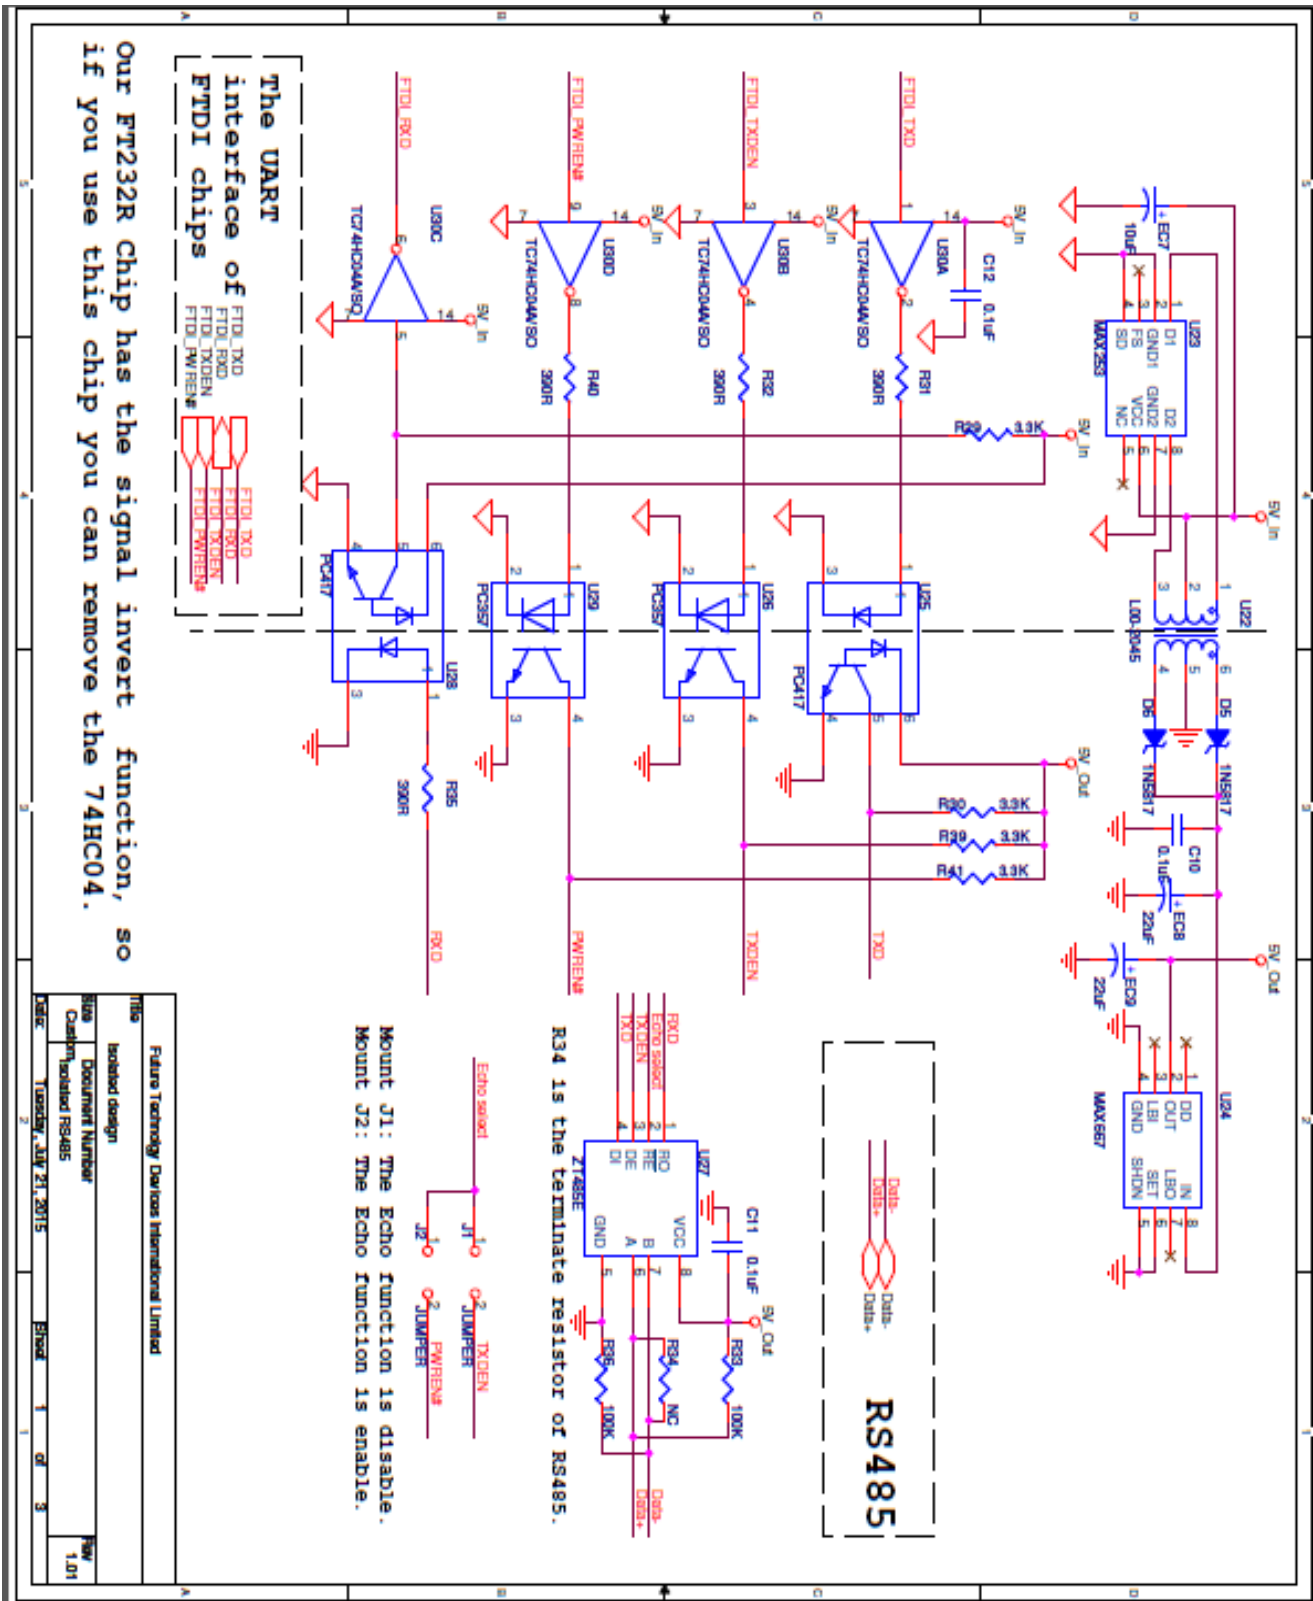

Figure 3-6 Reference Design 5 – RS485 Isolation Implementation Example
2. RS485 interface shown above has an echo function enabled. The jumper links shown in Figure3-6 can be used to enable or disable this function. If using an FT232R, it is possible to use one CBUS pin to connect to RE# pin to configure the echo function. If setting the CBUS pin to TXDEN by EEPROM programming, it will not support the RS485 echo function. If setting the CBUS pin to PWREN# by EEPROM programming, it will support the RS485 echo function.
A completed reference design example is given in Figure3-6